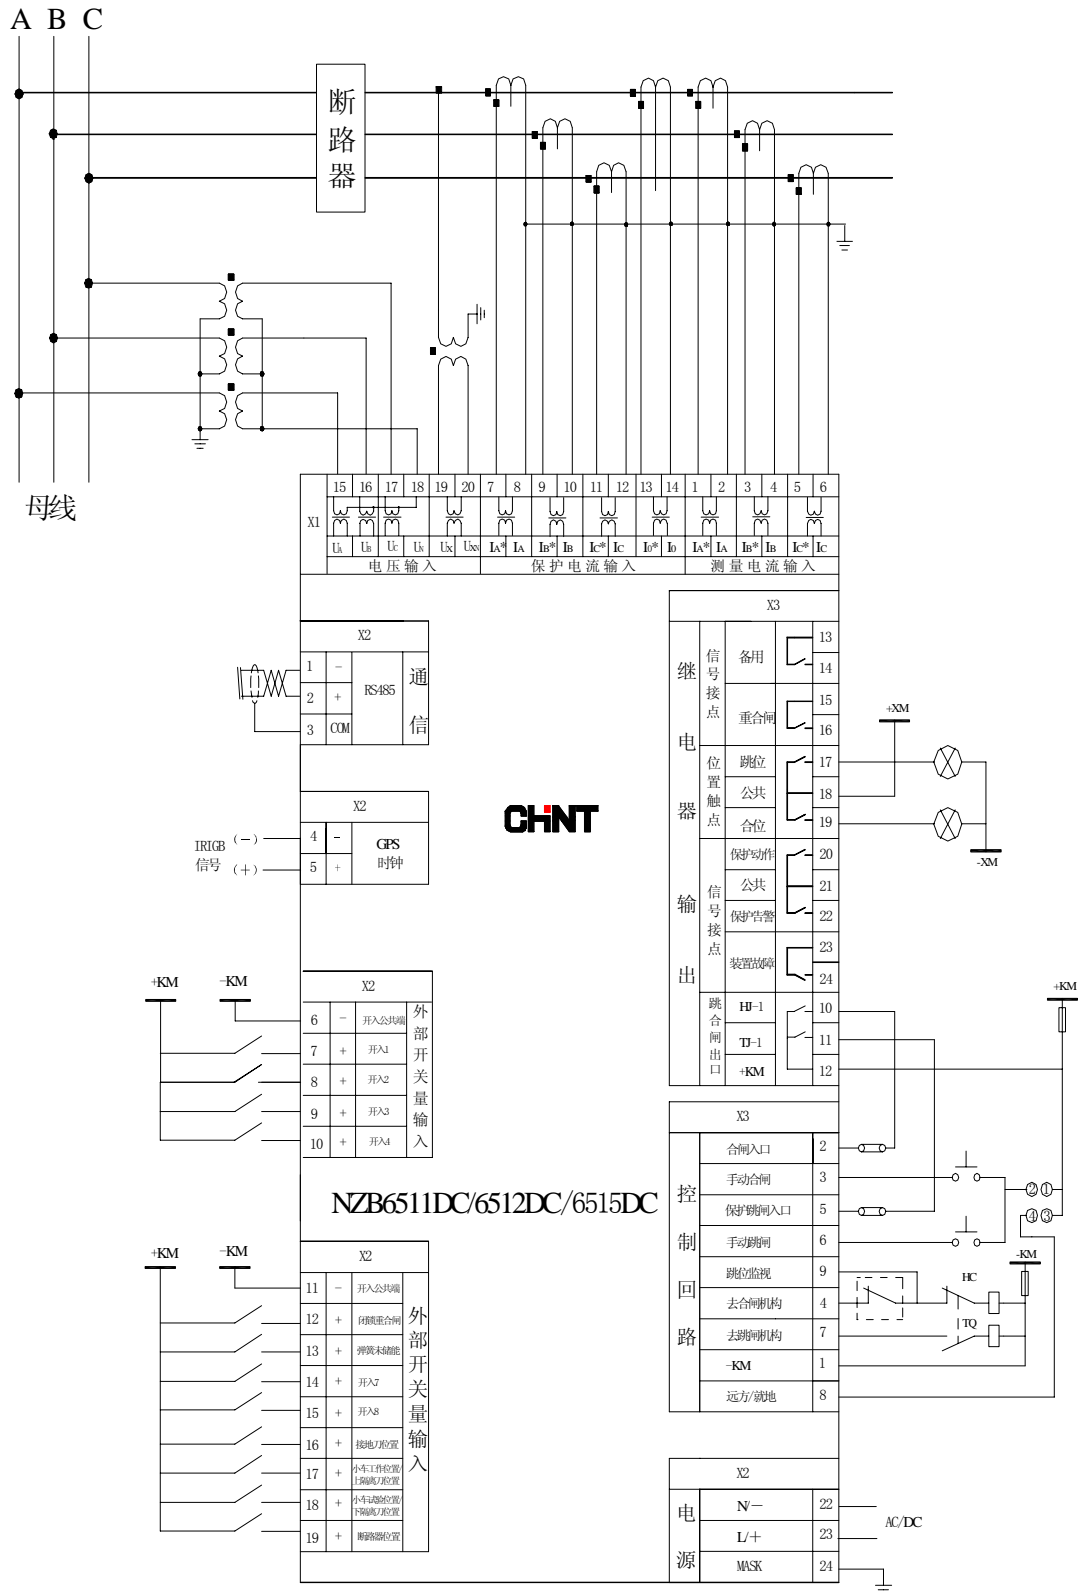

图7: NZB6511DC/NZB6512DC/NZB6515DC典型接线图
1) NZB6511DC/NZB6512DC/NZB6515DC 典型接线图见图 7